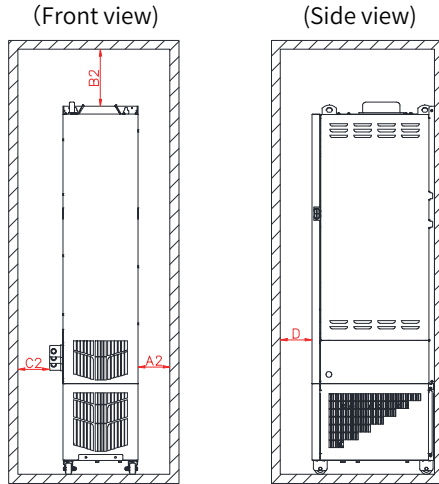

Figure 2-4 Installation clearances of a single AC drive (structures T10 to T12)
- ◆ Reserve the installation clearances as specified in Figure 2-4 to ensure sufficient space for heat dissipation of the AC drive. Take the heat dissipation of other equipment in the cabinet into consideration.